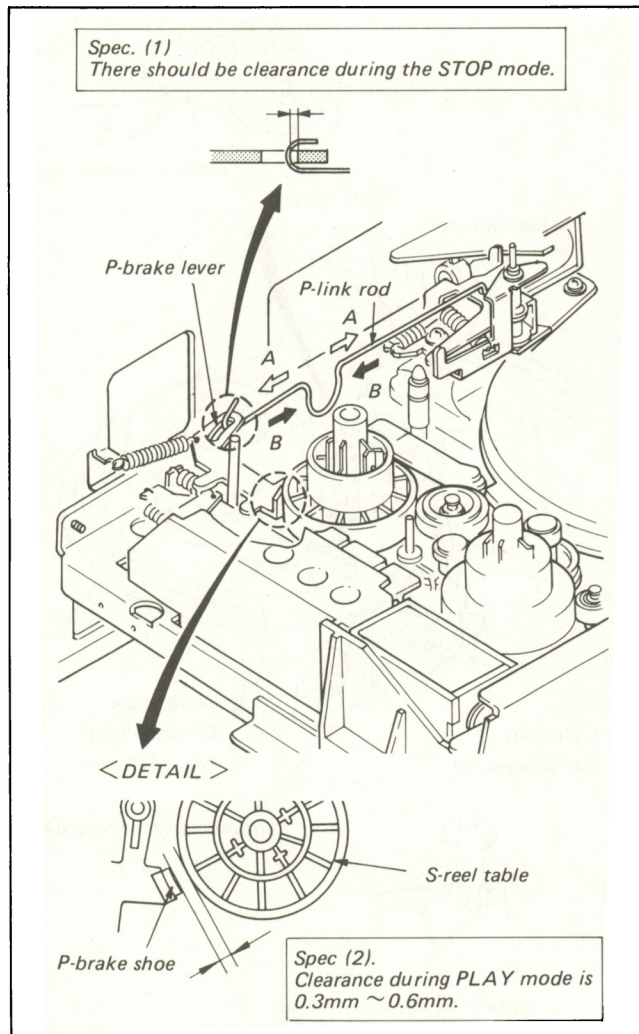

Fig. 6-14. Pause brake clearance adj.
3. Confirm that there is a clearance between the P-link rod and the P-brake lever as shown in Fig. 6-14. If not, perform Step 5 for the adjustment.